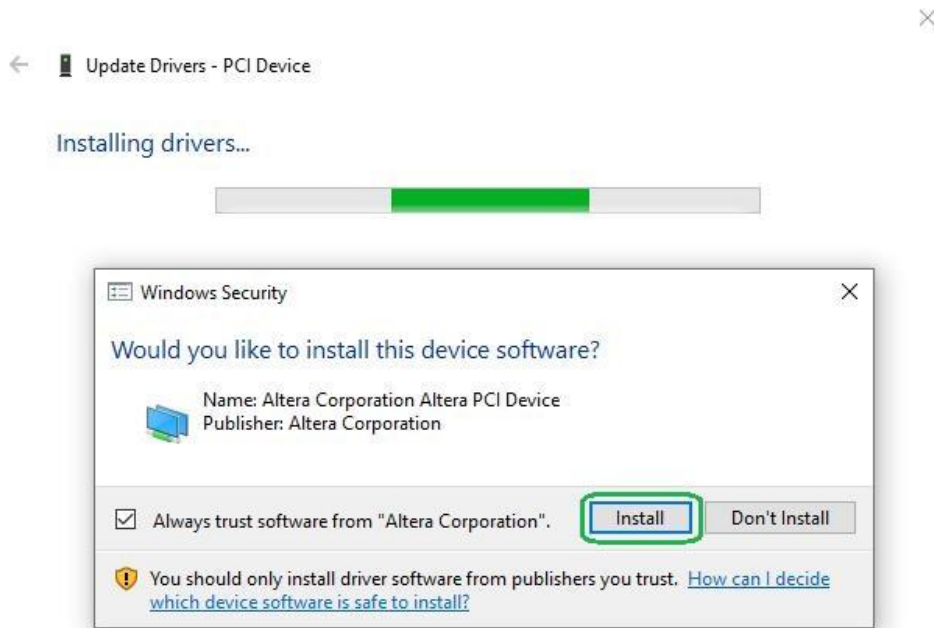

Figure 6-6 Click Install in the dialog of Windows Security
10. When the **Windows Security** dialog appears, as shown **Figure 6-6** click the **Install** button.